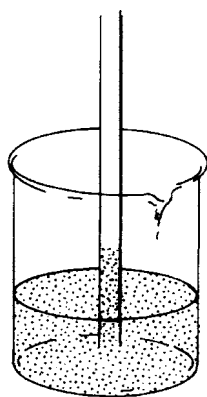
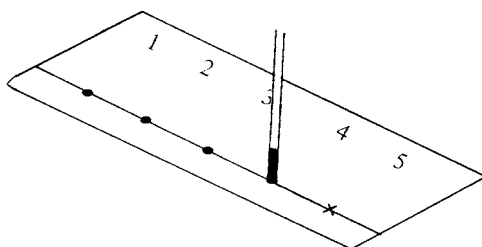

Figure 23.3
Figure 23.4
4. Place your chromatographic paper on a clean area (another filter paper) in order not to contaminate it. Use separate capillaries, one for your tomato paste extract and one for the β -carotene solution. First apply your capillary to the extracted pigment by dipping it into the solution as illustrated in Figure 23.3. Apply the capillary lightly to the chromatographic paper by touching, sequentially, the spots marked 2, 3, and 4. Make sure, when touching the paper, that you make only small spots, not larger than 2-mm diameter, by quickly withdrawing the capillary from the paper each time you touch it. (See Figure 23.4.)